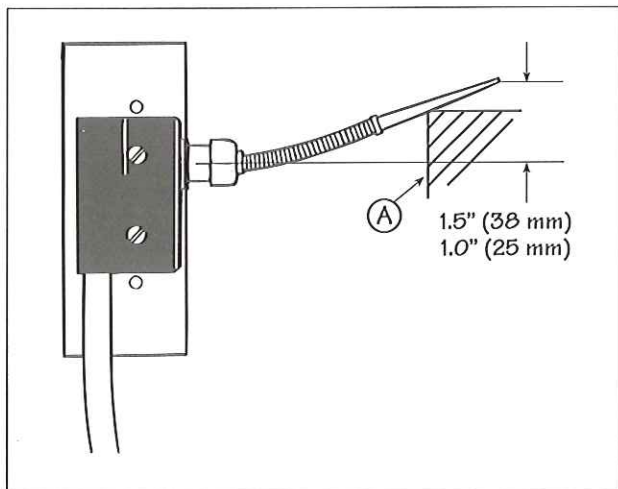

FIG. 25
- Adjust the switch by moving the switch along the mounting bracket. The actuator arm should be deflected 1.0 - 1.5" (25 - 38 mm), measured at the top of the actuator when the clutch pedal is in the up (clutch engaged) position (see Fig. 25) (clutch member, A).